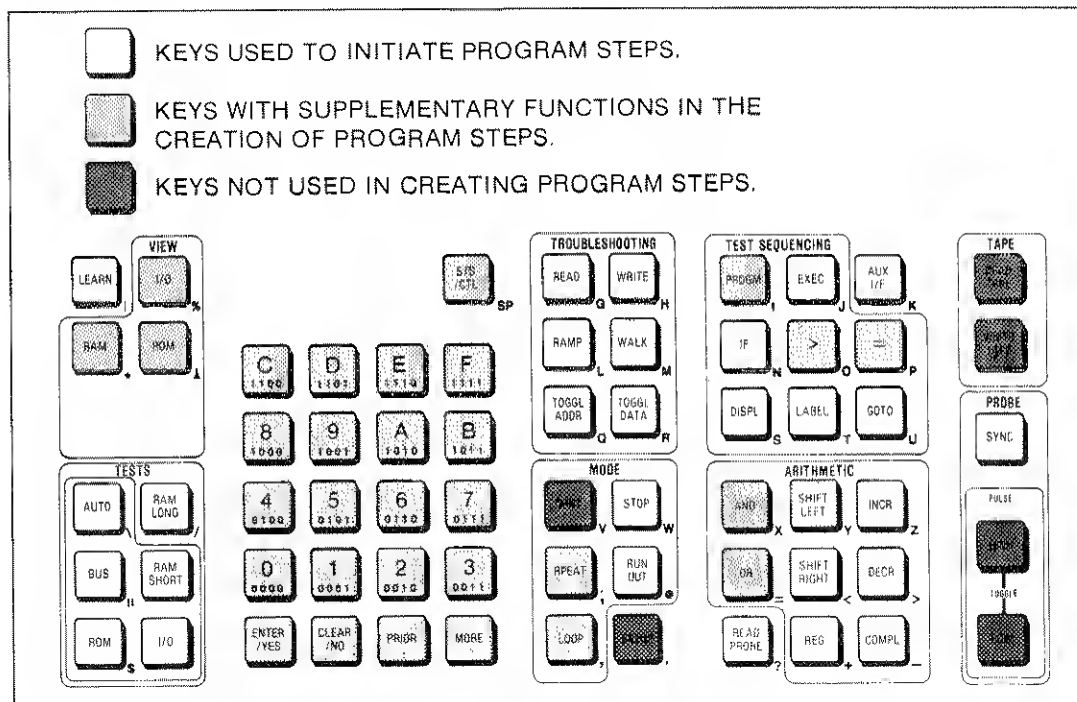

Figure 4-1. Function of 9010A Keys in The Creating of Program Steps
The 9010A keyboard is shown in Figure 4-1. The keys are grouped in three categories: (1) the 29 keys that initiate program steps, (2) the keys that do not initiate program steps but perform supplementary functions in the creation of program steps, and (3) the disallowed keys that are not used in the Programming Mode.